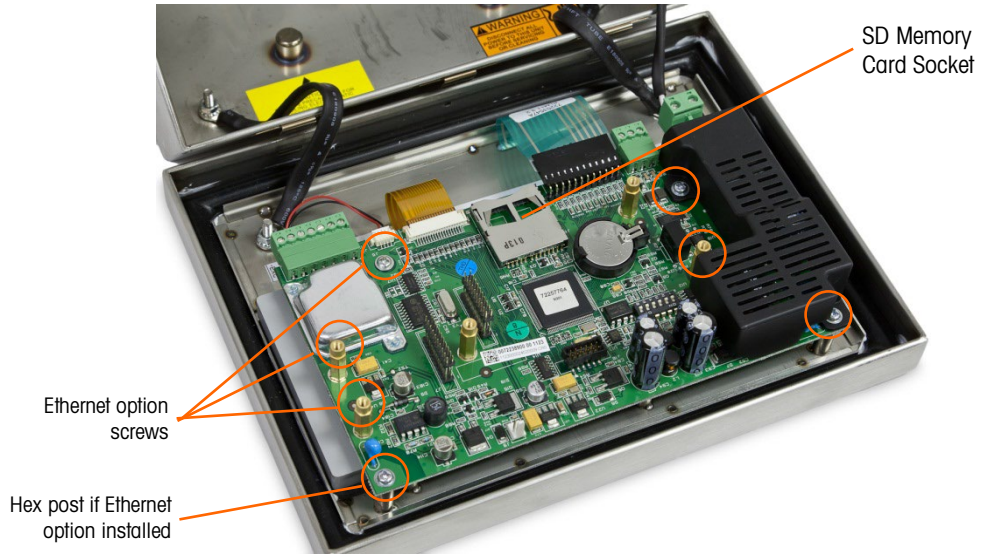

Figure 5-19: Mounting Screws for Main Board, Analog Version
4. Unscrew and remove the four screws holding the main board to the enclosure. Their locations are circled in Figure 5-19. In the case that the Ethernet option was installed, one screw will be replaced with a hex post stand-off. Use a 6mm nut driver or a straight blade screwdriver to remove the hex post stand-off from the location noted.
6. If an SD memory card is installed, press in to loosen the card from the socket then remove the card and retain the card to be installed into the replacement main board. Refer to Figure 5-14 or Figure 5-19 for location of SD Memory card slot.
2. Position the main board over the four screw holes in the terminal enclosure identified in Figure 5-19.
3. Install the four screws. Note that if the Ethernet option is to be used, one of the screws is replaced with a hex post stand-off. Refer to Figure 5-19 for the location of the hex post stand-off.